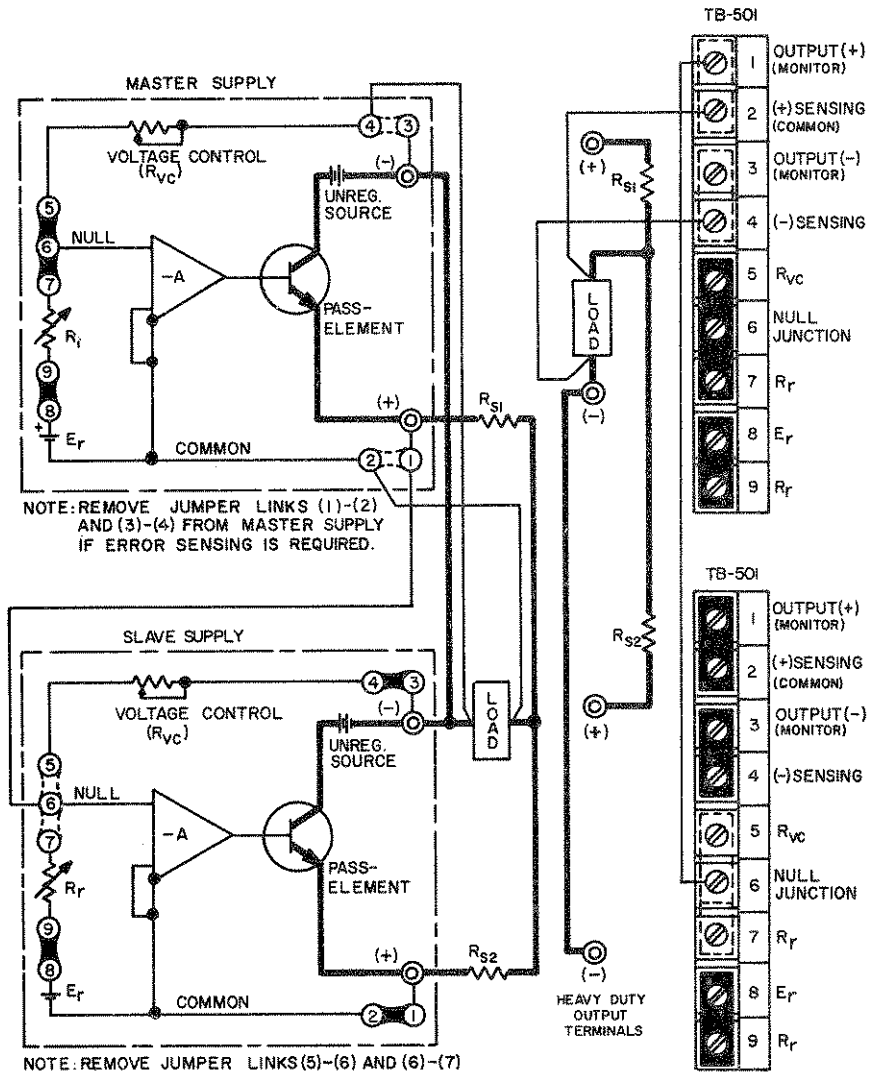

FIG. 3-14 MASTER SLAVE PARALLEL CONNECTION OF KEPKO POWER SUPPLIES
3-45 **MASTER/SLAVE PARALLEL CONNECTION.** Two power supplies are shown in FIG. 3-14, although more can be paralleled, each unit requiring its own sampling resistor. The sampling resistors (R_{S1} , R_{S2} in FIG. 3-14) are of equal value and are selected such that the voltage drop across them (due to the output current), plus the voltage drop in the load connection leads does never exceed 0.5 volts. If the voltage drop across the load connecting leads alone is at least 0.1 volt, the sensing resistors can be deleted since the leads provide the necessary sample voltage. For equal current sharing, however, the lead *length* and *diameter* should be the same for both power supplies. Output control is exercised from the "Master" supply.
3-46 PROCEDURE FOR "MASTER/SLAVE" PARALLEL OPERATION (See FIG. 3-14)
- 2) Make all load and sensing connections as shown in FIG. 3-14. The error sensing connections may be deleted if the minor voltage drop across the load wires (which subtracts from the available compliance voltage) can be tolerated.